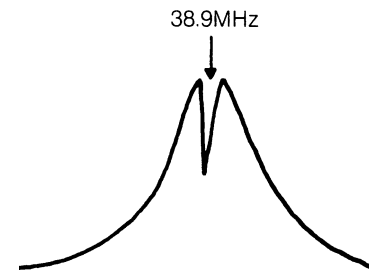

Fig. 3-2
- Adjust L6011 until the waveform marker (38.9MHz) becomes as shown in Fig. 3-2.